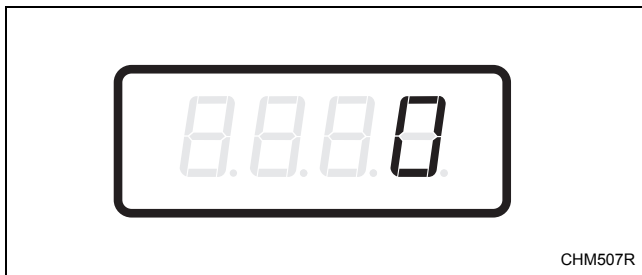

Figure 14
4. When “AtS9” appears in the display, press the START (enter) keypad. There are five digits in the Vend Price #9. The fifth digit will appear in the display and will flash one second on, one second off. Refer to *Figure 14*.